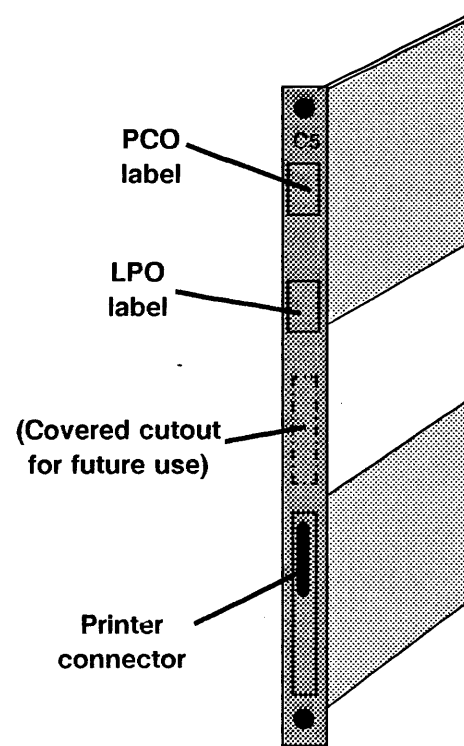

Figure 28. C5 Stiffener: end view showing labels and printer connection
7. Two PCO labels are supplied with the LPO kit. Select the PCO label that matches the one on the C5 stiffener from which you removed the PCO PWB. Attach this label to the spine of the new C5 stiffener, just below the "C5" marking (Figure 28).